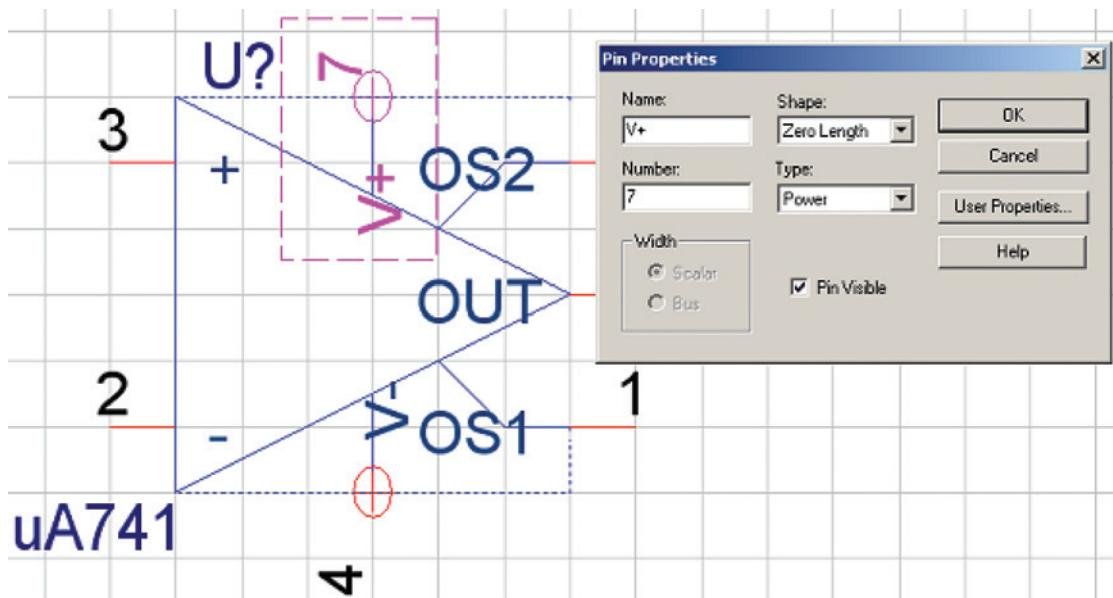

Figure 9-9 Use the Part Editor to change a pin's name or type.
**To change the name or type of a nonvisible power pin**, select the part on the schematic, right click, and select **Edit Part** from the pop-up. You will be given a Capture Part Editor window (see Fig. 9-9). Double click the pin you want to change the name of to bring up the **Pin Properties** dialog box as shown in Fig. 9-9. Enter the new name in the Name: text box and click **OK**. Repeat the process for the other power supply pin.